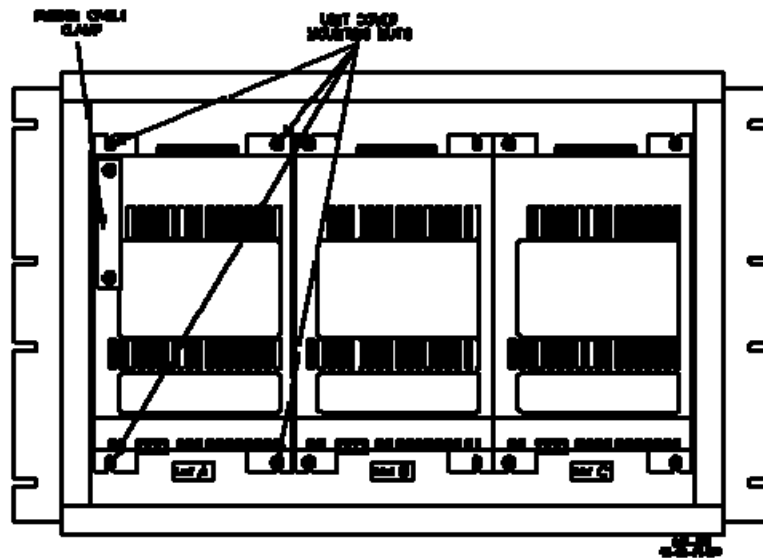

Figure 5-2. Unit Covers Inside the ProTech Device
3. If you're replacing a fuse in Unit A, remove the ribbon-cable clamp and retain for use when re-installing the cover (Figure 5-2).
4. Unplug the power supply board terminal block, then unplug the I/O board terminal block (Figure 5-2).
5. Remove the four nuts on the unit's cover, and carefully lift the cover off (Figure 5-2). Retain the cover and the nuts to be reinstalled after changing the fuse.
9. If you've been working on Unit A, replace the ribbon-cable clamp onto the cover (Figure 5-2).
3. If you're replacing Unit A, remove the ribbon-cable clamp and retain for use when installing the replacement unit (Figure 5-2).
5. Remove the four nuts on the unit's cover, and carefully lift the cover off (Figure 5-2). Retain the cover and the nuts to be reinstalled with the replacement unit.
9. If you've replaced Unit A, replace the ribbon-cable clamp onto the cover (Figure 5-2).